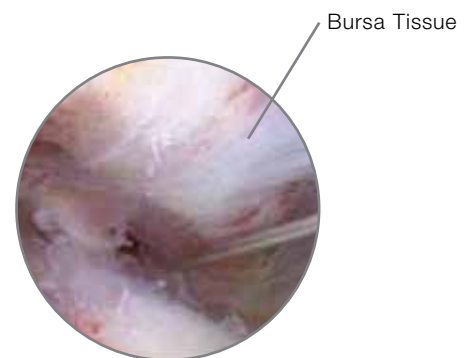

Figure 3
Exposing the coracoid from the subacromial space involves placing the arthroscopic camera into the anterior aspect of the subacromial space from the posterior portal. In this area there is typically very little bursa and the space is easily visualized. Utilize a spinal needle to ensure an adequate location for an anterolateral portal. It should be lateral and inferior to the anterolateral tip of the acromion. Next, identify the coracoacromial (CA) ligament anteriorly and follow its course down medial and inferior to its attachment on the coracoid tip. Some bursa may need to be debrided to follow the ligament (Figure 3).